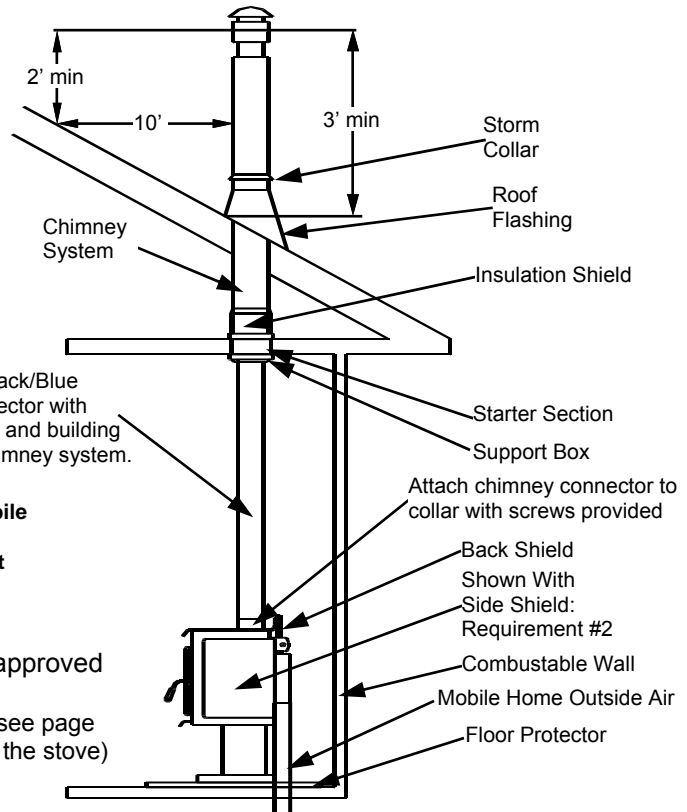

FIGURE 30
D. MOBILE HOME (FIG. 23,30), MOBILE HOME ALCOVE (FIG. 22), MOBILE HOME CORNER (FIG. 21), AND RESIDENTIAL ALCOVE (FIG. 22), INSTALLATIONS USING PREFABRICATED CHIMNEY. Refer to Page 20, Fig. 21, 22, 23, and Fig. 30 below.